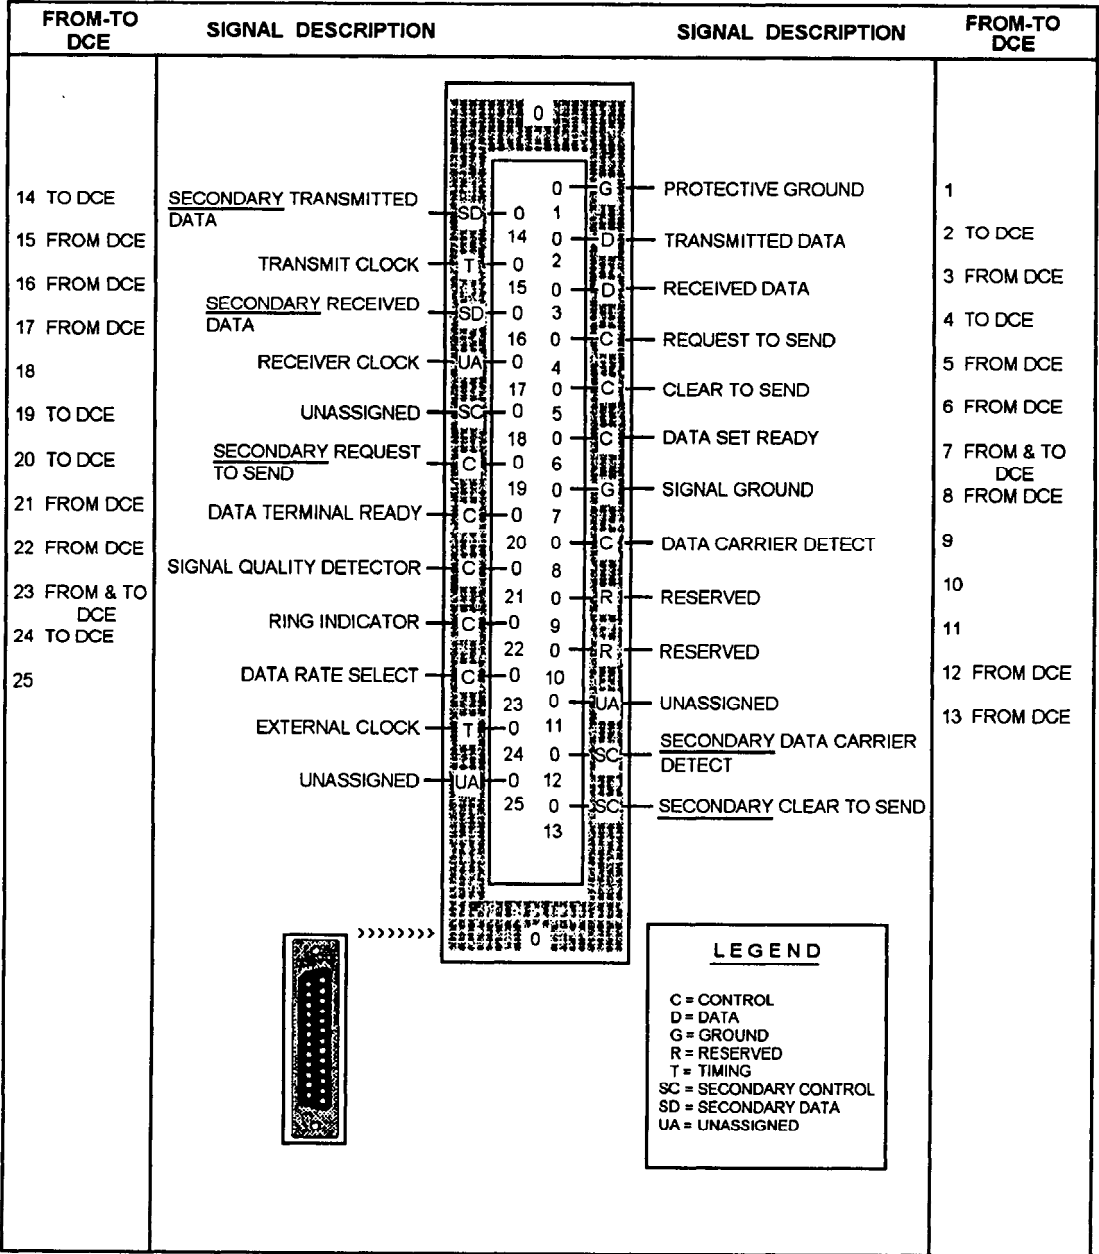
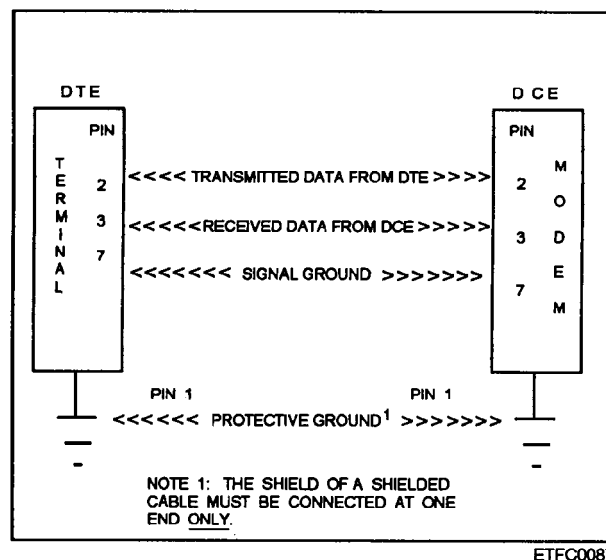

Figure 7-25—A typical RS-232 female connector.
Figure 7-26.—A typical DTE to DCE connection showing the minimum wiring required under the RS-232 interface standard.
With serial operations, one cable will suffice to perform serial I/O operations with an external device. Each of the signal leads is assigned a specific function. These functions can be assigned one of four specific groupings: data (both primary and secondary), **control** (again, both primary and secondary), **timing**, and **ground**. Each of these groupings is indicated by a letter in figure 7-25 and is further described in the legend. We use an RS-232 as our example in this discussion. Although the connector itself is not specified in the standard, a 25-pin connector (such as the one shown in figure 7-25) has become the generally accepted
**Pin 3, Received Data**— Pins 2 and 3 are the pins of most importance; for if it weren't for the data that passes through them, the remaining pins would not be needed. Data is normally transmitted in the following manner. The DTE **transmits** data on pin 2 and **receives** data from the DCE on pin 3 as described in figure 7-25 and shown in figure 7-26. Figure 7-26 illustrates the absolute minimum wiring required under the RS-232 interface for normal DTE-DCE communication.
**Pin 23, Data Rate Select**— This entry according to figure 7-25 looks like there should be two pins assigned, but actually it is either data rate select (DTE source) or data rate select (DCE source). Some modems, called dual-rate modems, allow switching between two transmission speeds. Sometimes the speed is selected automatically by the modem during the initializing sequence, or it may be selected by the transmitting DTE. The signal on pin 23 determines whether the modem uses the low or high speed. Usually the modem at the calling end sets the speed for the connection and informs its DTE. The calling modem signals the speed to the answering modem, which informs the called DTE by activating data rate select (DCE source).